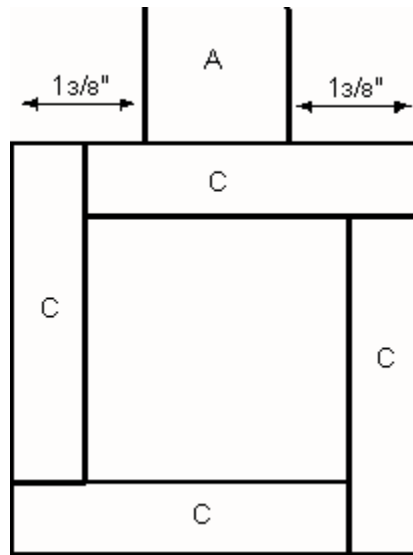

Figure 5
- Add three more verticals (C) to each of the attached verticals (C), overlapping each piece in rotation, as shown in *Figure 5*. Secure each of the verticals (C) with glue and 1-1/2" long nails spaced every 4 inches along the length. Make certain that you follow the rotation exactly to form the first poster, and then rotate the opposing poster in a mirror image; otherwise, your posters will not match.
- Cut two headboard poster caps (D) from 2 x 6 pine, each measuring 5-1/2" long.
- Center one headboard poster cap (D) over one assembled poster. Wipe glue on the meeting surfaces, and nail through the headboard poster cap (D) into each of the verticals (C) using four 2-1/2"-long nails.
- Repeat Step 7 to attach the remaining headboard poster cap (D) to the remaining poster.
3. Repeat Step 2 to mark a mirror image placement on a second footboard poster vertical (G).
4. Position the footboard assembly between the marked verticals (G), exactly on the placement marks. Wipe glue on the meeting surfaces, and use clamps to hold the assembly together. Screw through the verticals (G) into the ends of the footboard top/bottom (E) using two 2-inch-long screws on each joint.
5. Add three more verticals (G) to each of the attached verticals (G), overlapping each piece in rotation, as shown in *Figure 5*. As you did for the headboard, make certain that you follow the rotation exactly to form the first post, and then reverse the rotation for the other post.
6. Cut two footboard post caps (H) from 2 x 6 pine, each measuring 5-1/2" long.
7. Center one footboard post cap (H) over one assembled post. Nail through the post cap (H) into each of the verticals (G), using four 2-1/2" 8d-finishing nails.
8. Repeat Step 7 to attach the remaining footboard post cap (H) over the remaining post.